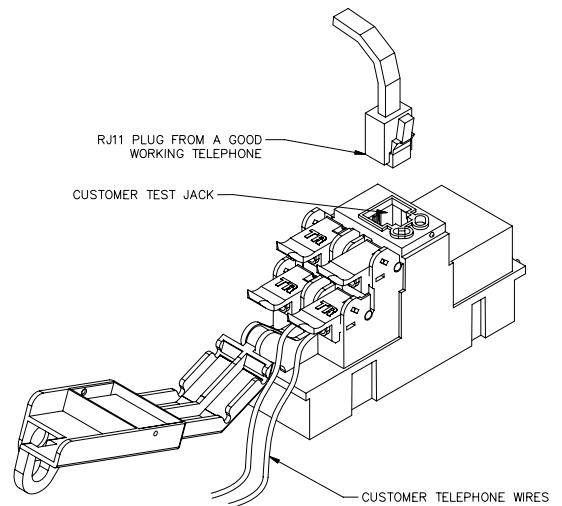

Figure 4
- 6.2 Using a working telephone, insert telephone RJ-11 plug into customer test jack (see Figure 4).